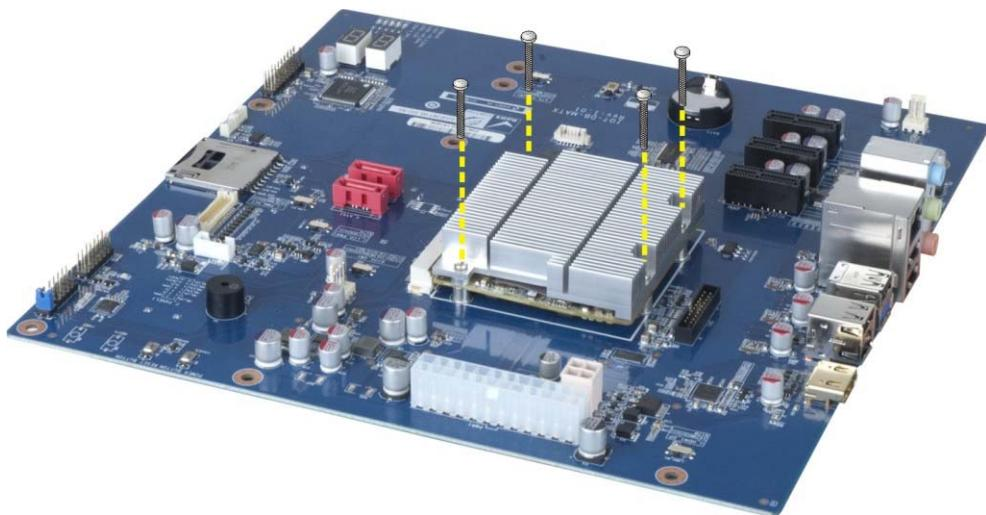

Figure 3-3: Secure the Heatsink
Step 4: Secure the heatsink to the iQ7-BT and the baseboard with the supplied retention screws (Figure 3-3).